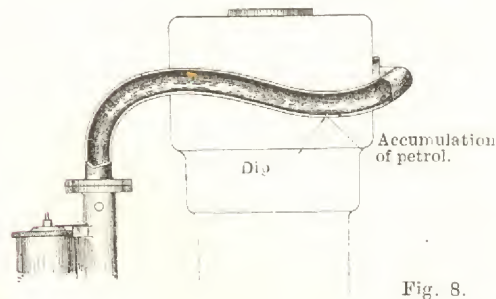

Fig. 8.
**Dips and pockets** in which petrol vapour can condense should also be avoided (Fig. 8).